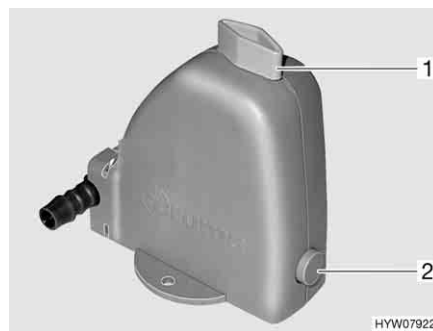

Fig. 184 Safety/drainage valve of the boiler
The boiler is equipped with a safety/drainage valve (Fig. 184). The safety/drainage valve prevents water in the boiler from freezing, when there is frost and the heater is not switched on.
- Close the safety/drainage valve. Turn the knob (Fig. 184,1) perpendicular to the safety/drainage valve and push the push button (Fig. 184,2) in.
- Open the safety/drainage valve. To do this turn the knob (Fig. 184,1) parallel to the safety/drainage valve. The push button (Fig. 184,2) jumps out. The boiler is drained to the outside by the safety/drainage valve.